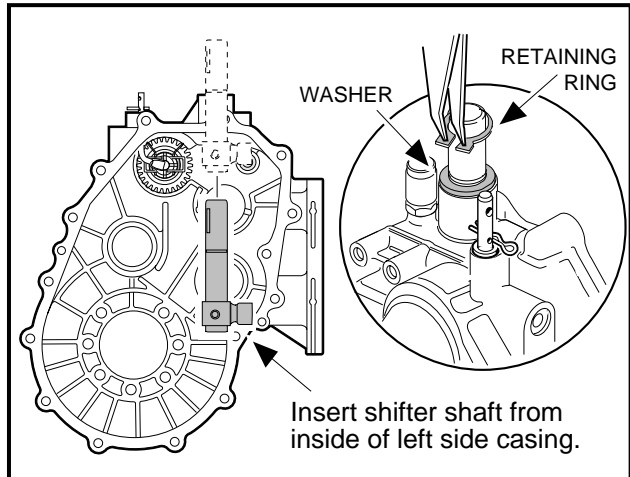

Figure 16-80 Insert Shifter Shaft
6. Install the shifter shaft into the left (driver side) case as shown (**Figure 16-80, Page 16-33**). Then install the washer and using external snap ring pliers (.070 tip), install retaining ring on the shifter shaft outside of the case (**Figure 16-80, Page 16-33**). Make sure the retaining ring is in the groove of the shaft.